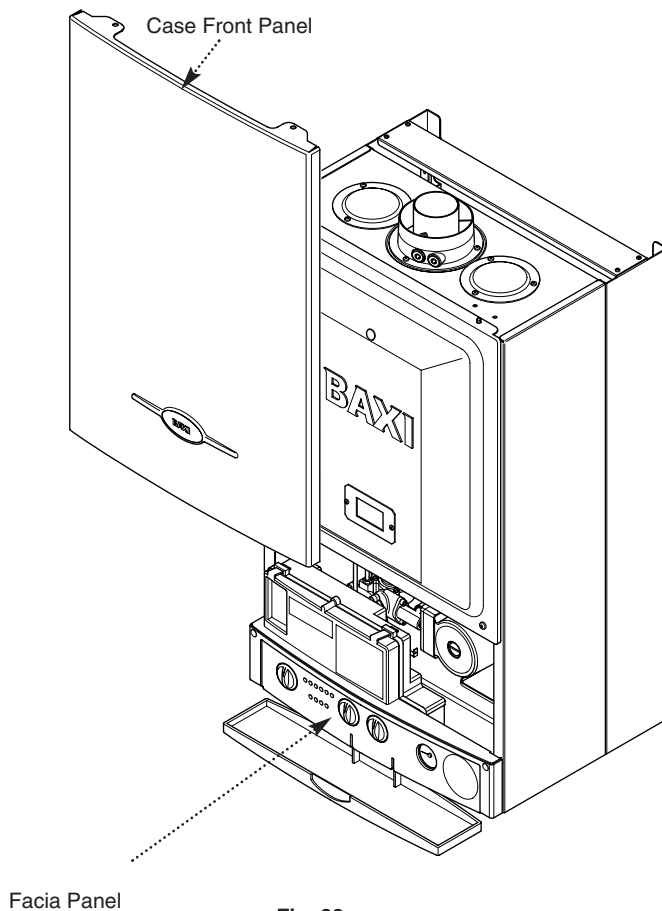

Fig. 38
1. Hinge the facia panel upwards and refit the case front panel. Secure them with the screws previously removed (Fig. 38).